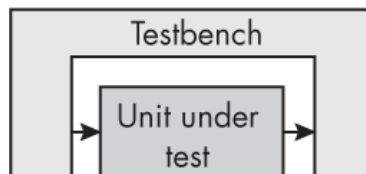

Figure 5-3: A testbench exercises a UUT so you can analyze it.
The purpose of a testbench is to exercise your UUT in a simulation environment so you can analyze it and see if it's behaving as expected. The testbench code instantiates the UUT. As you can see in Figure 5-3, the testbench provides all the required inputs to the UUT and monitors all the outputs.
First, notice that this is the first time we've seen a Verilog module or VHDL entity that has no inputs or outputs declared ❶. This is because this testbench doesn't connect to any external signals; as you saw earlier, in Figure 5-3, the testbench itself provides the inputs.